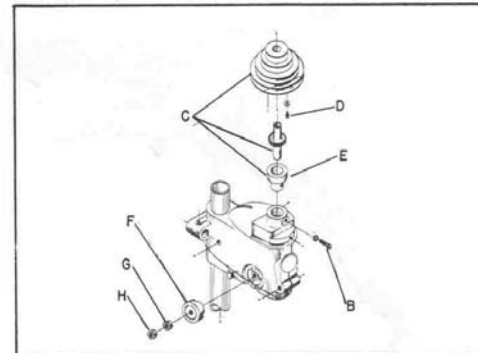

Fig. 19
To replace the bearing, remove the spindle pulley guard. Remove the hexagon head cap screw (B) Fig. 19, from the front of the head and push the pulley assembly (C) upward, out of the head casting. Remove the three screws and washers (D) from the inside of the pulley and press the old bearing (E) out of the pulley. Install a new bearing and reassemble.
For the purpose of automatically returning the spindle upward after the hole has been drilled, a clock spring is provided in the case (F) Fig. 19. This spring has been properly adjusted at the factory and the adjustment should not be disturbed unless absolutely necessary.
1. Loosen the hexagon nuts (G) and (H) Fig. 19, and back them off about 1/8" from the spring case (F) for clearance.
2. Grip the case (F) Fig. 19, firmly, to hold the spring tension, and while pulling the case away from the lugs on the left side of the head casting, rotate the case 1/4 turn and slip the next pair of notches over the lugs. The spring case is turned counterclockwise to tighten and clockwise to loosen.
5. When proper tension is obtained, turn the inner hexagon nut (G) Fig. 19, lightly against the spring case (F), but not tight enough to cause binding. Lock it in position by means of the outer nut (H) using two wrenches to join them together.